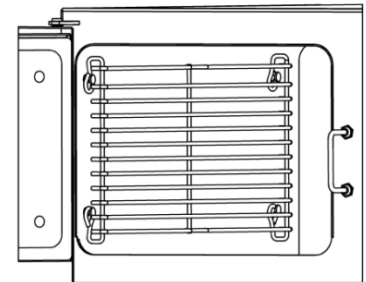

Figure 3-3 Slide Rack Installation
1. Refer to Figure 3-3. Each rack has four loops: two at the top and two at the bottom. Hold the slide rack so the ends of the hanger loops are towards the cavity wall, as shown in the figure.